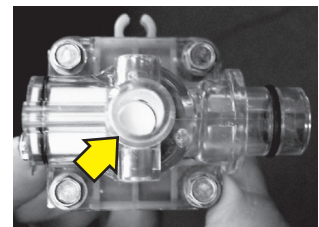

Figure 2. Restrictor Closed.
2. Carefully, turn flow adjustment screw clockwise all the way in (see figure 2.). Observe restrictor position . Do not overtighten.